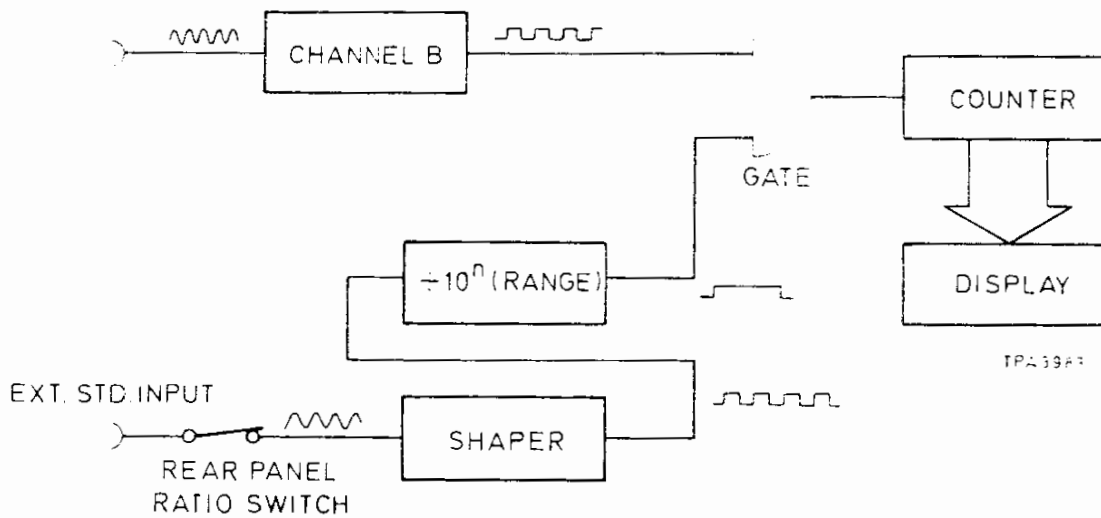

Fig. 3 Frequency ratio
4. When frequency ratio measurements are made, see Fig. 3, the rear panel input signal replaces the frequency standard so that the counter display reads the ratio between the two input signals.